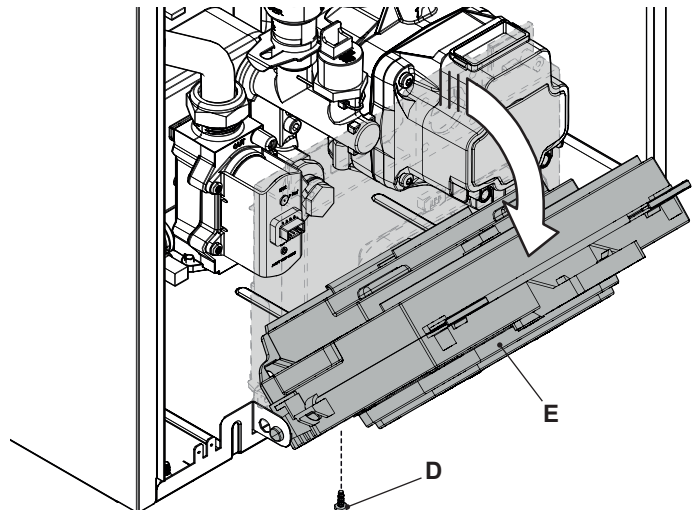

Figure 2.4
- 2 Unscrew the screw "D" and turn the control panel "E" (Figure 2.4).